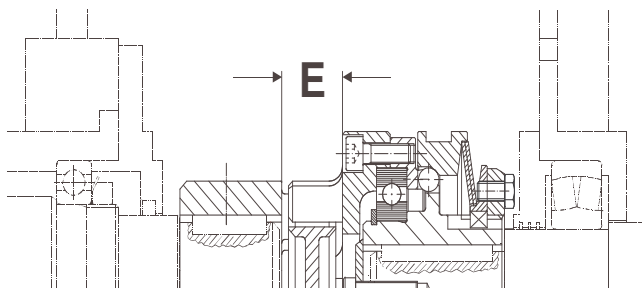

Fig. 2
As standard EAS®-NC clutches are supplied with cone bushings, shrink discs, clamping hubs or with keyways ready to be installed. EAS®-NC clutch (1) and ROBA®-ES-coupling hub (3) are drawn onto the shaft and fixed axially (example fig. 2). Both clutch halves can be pushed together without problems.
The dimension „E“ acc. to Table 1 and Fig. 2 must be maintained in any case.
- ☐ Axially fix the clutch halves, e.g. by means of a retaining cap and setscrew (see Fig. 2).
Keep dimension „E“ acc. to Fig. 2 and Table 1 in any case!